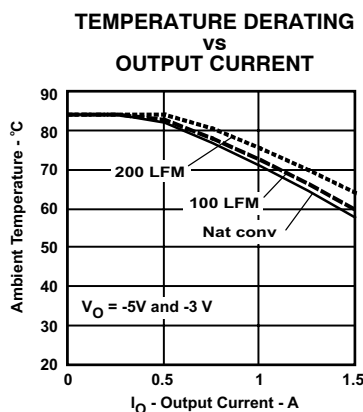

Figure 16.
- (2) The temperature derating curves represent the conditions at which internal components are at or below the manufacturer's maximum operating temperatures. Derating limits apply to modules soldered directly to a 100-mm x 100-mm, double-sided PCB with 2 oz. copper. For surface mount packages, multiple vias (plated through holes) are required to add thermal paths to the power pins. Please refer to the mechanical specification for more information. Applies to Figure 16.